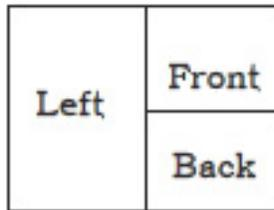

Figure 1
1. The viewing configuration in Figure 1. will display when the green trigger wire receives power. When the trigger wire loses power, the display will return to the previous viewing configuration.